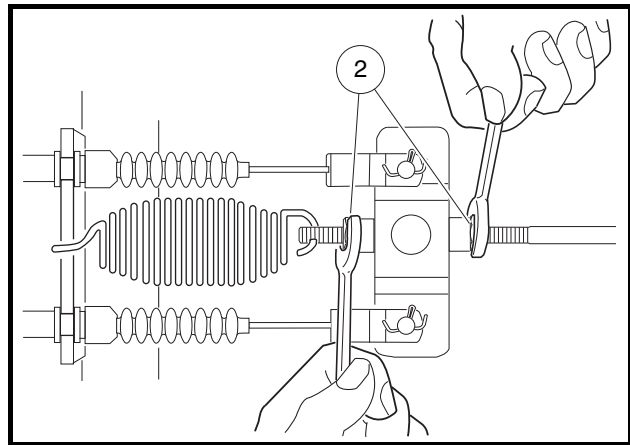

Figure 5-21 Loosen Front Brake Equalizer Rod Nuts
- 2.3. **Four-wheel brake vehicles only:** Loosen the front brake equalizer rod (**Figure 5-21, Page 5-16**).